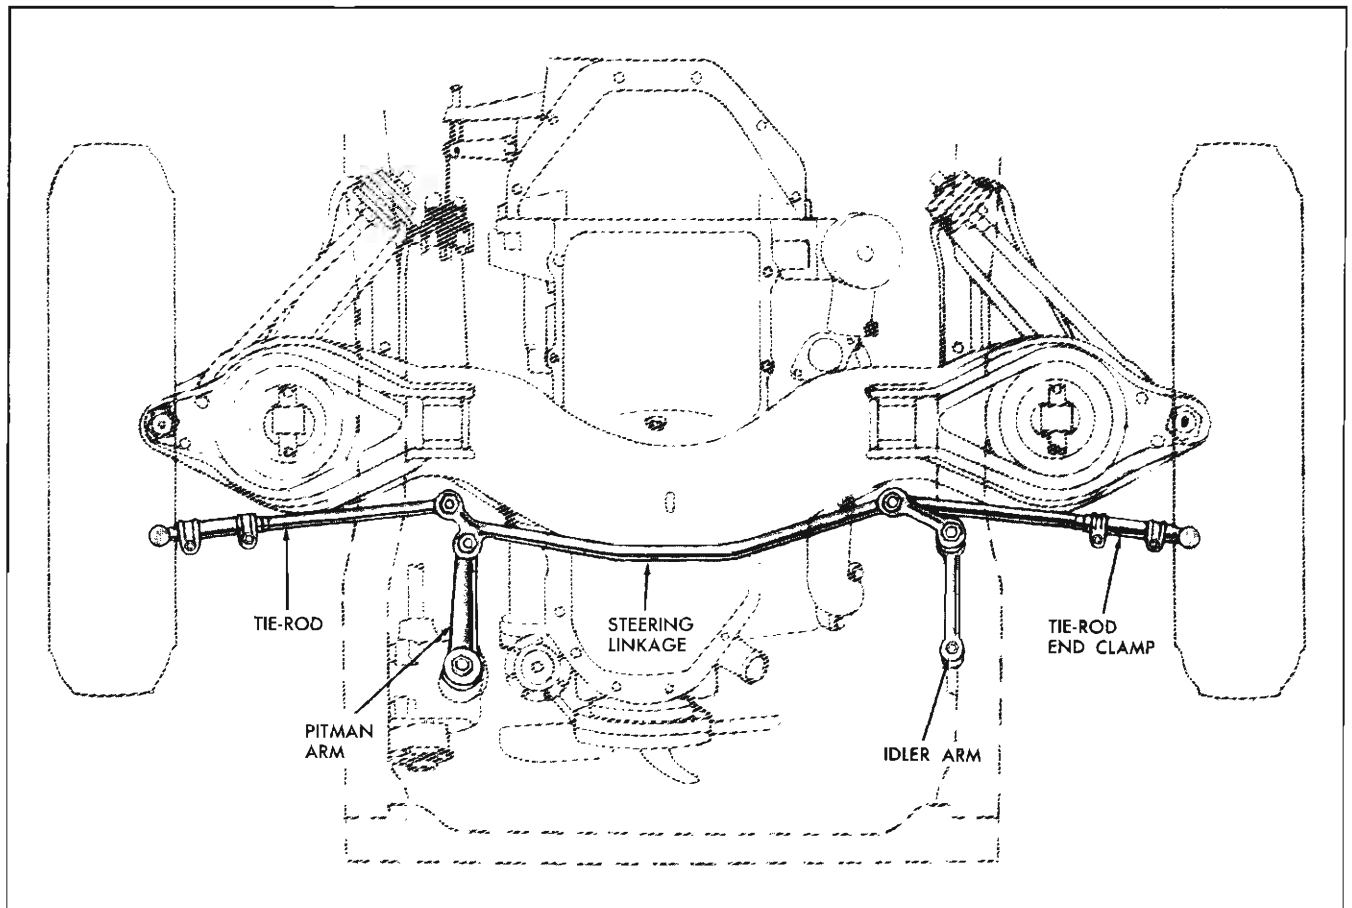

Fig. 9-8 Standard Steering Linkage
1. Disconnect steering linkage from pitman arm (Fig. 9-8) by removing cotter pin and nut and using Tool J-6627.